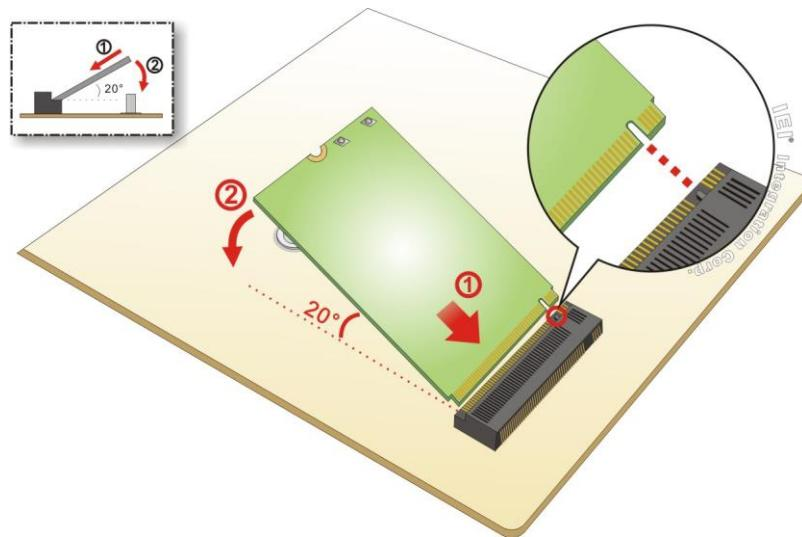

Figure 3-8: Inserting the WLAN Module
Step 4: Insert into the socket at an angle. Line up the notch on the WLAN module with the notch on the slot. Slide the WLAN module into the slot at an angle of about 20° (**Figure 3-8**).